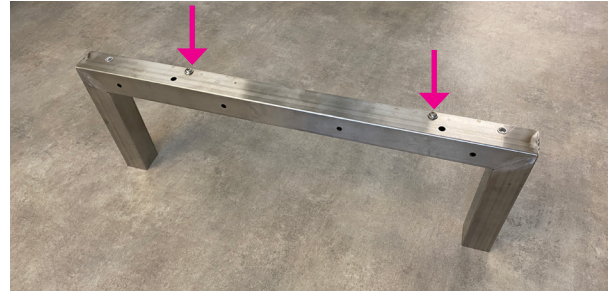

Figure 4
1. Remove the filter rack securing bolts (Fig. 4).